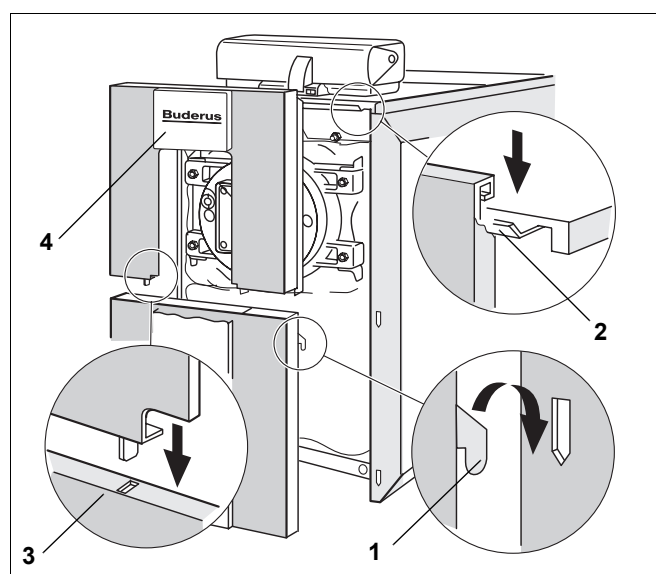

Fig. 21 Fixing upper and lower front panel sections
- Locate 4 vertical hooks (Fig. 21, **Item 1**) on lower front panel in the slots in the side panel flanges.
- Locate the rail on the front top panel and lower the top edge of the top front panel down onto the rail (Fig. 21, **Item 2**).
- Position hooks (Fig. 21, **Item 3**) on top and bottom fascia panels into the front panels.
- Fix appliance insignia plate (Fig. 21, **Item 4**) to front panel.